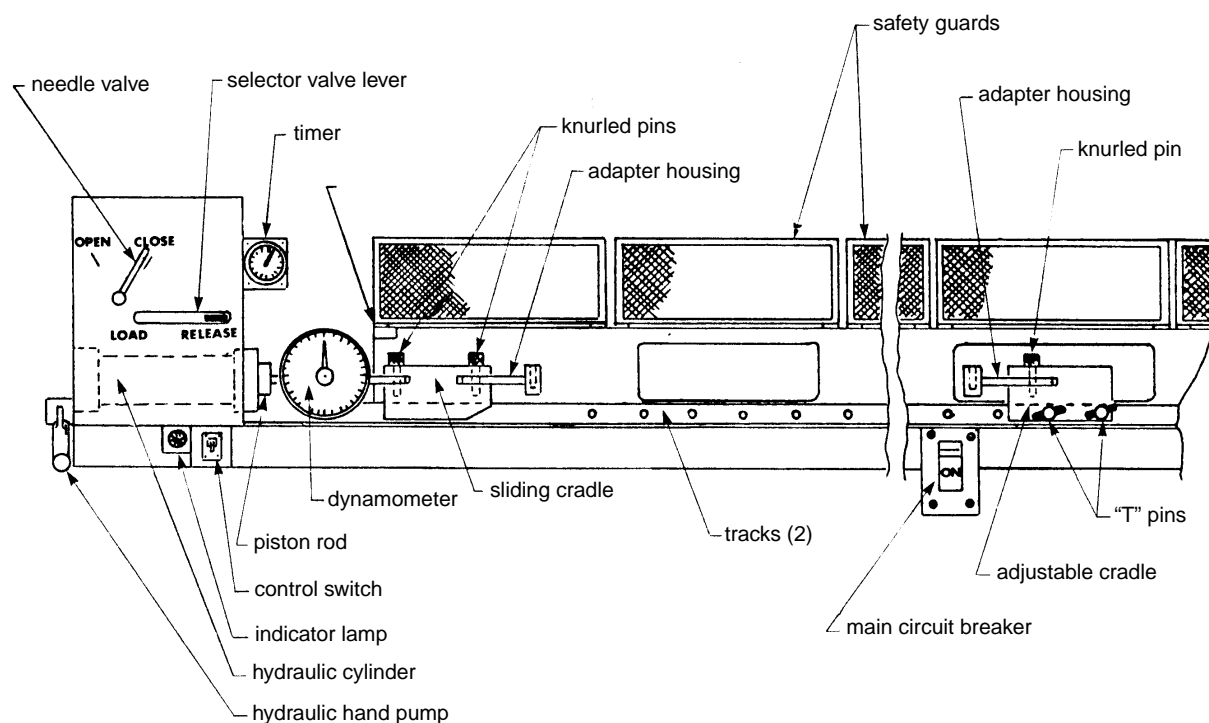

Figure 1 - SD 2342 Cable Test Bench
4.2.1 SD 2342 cable test bench and accessories (see Figure 1). In place of the SD 2342 cable test bench (and accessories), it is acceptable to substitute alternative test equipment provided that the following conditions are met: